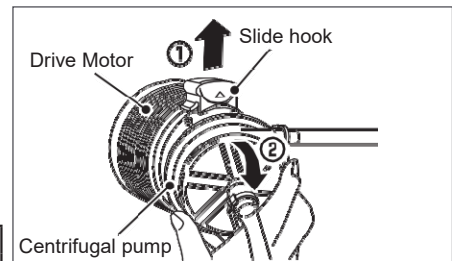

Figure 5-7
3. **Pull up the slide hook of the Drive Motor (Figure 5-7 a) and remove the centrifugal pump from the Drive Motor. (Figure 5-7 b)**